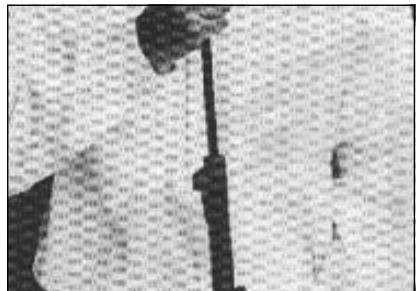

Figure 7
13. With ramrod, push projectile down on top of powder, firmly, but without crushing the powder or pellets. (See Figure 7).